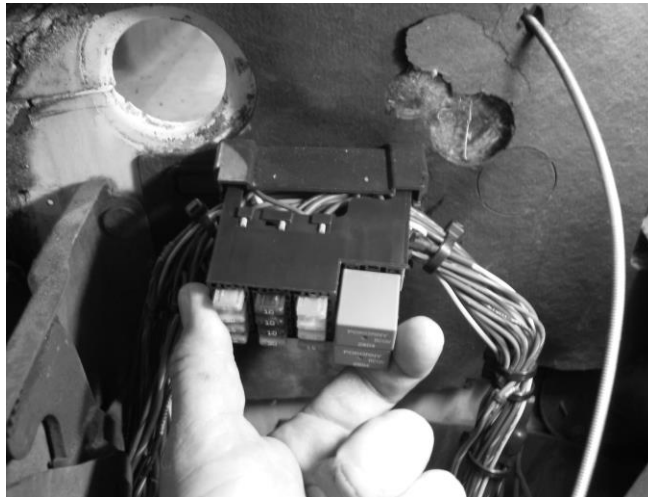

Figure 6-6 Snapping Fuse Block into Base
6.1.2 Route the fuse block and attached harness under the dash and through the opening by the brake pedal. Now snap it into the fuse block base. **See Figures 6-4 & 6-5 for '67-'72 model trucks AND Figure 6-6 for '73-'77 model trucks.**